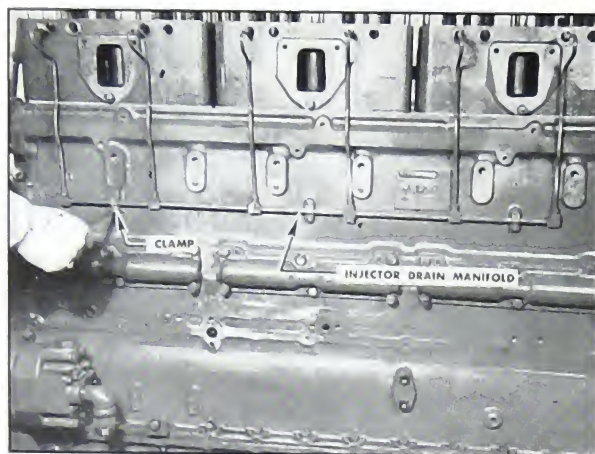

Fig. 12-15. Injector drain manifold
2. Assemble the injector drain manifold to the cylinder block and secure it in place with small clamps and screws. (Fig. 12-15). Current drain manifolds mount at the compression release shaft outside mounting holes.